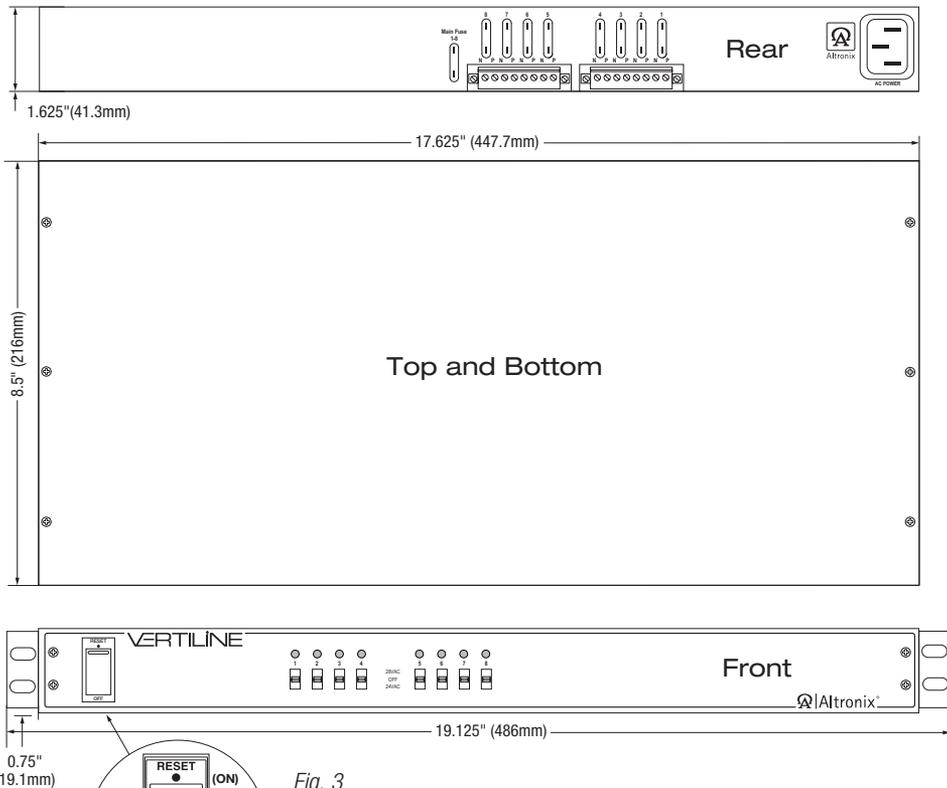

Fig. 3
4. Set illuminated master power disconnect circuit breaker to the (ON) position (Fig. 3, pg. 6).
6. Measure output voltage before connecting cameras. This helps avoiding potential damage. All terminals with common suffix (P) "1P, 2P ..." are the same polarity.
7. Set illuminated master power disconnect circuit breaker to the (OFF) position (Fig. 3, pg. 6).
9. Upon completion of wiring, set illuminated master power disconnect circuit breaker to the ON (RESET) position (Fig. 3, pg. 6).
To reset circuit breaker set power switch to the ON (RESET) position (Fig. 3, pg. 6).